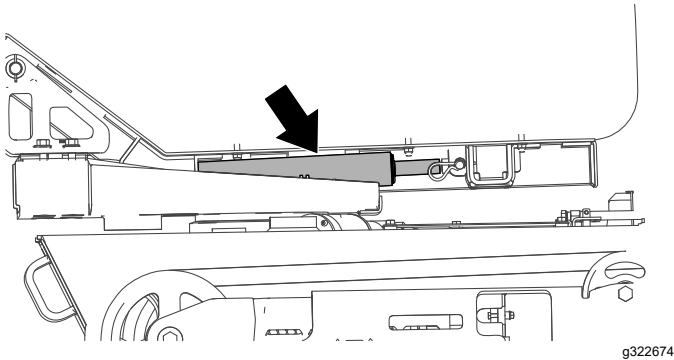

Figure 13
2. Place a large drain pan under the hopper lift cylinder (Figure 13).